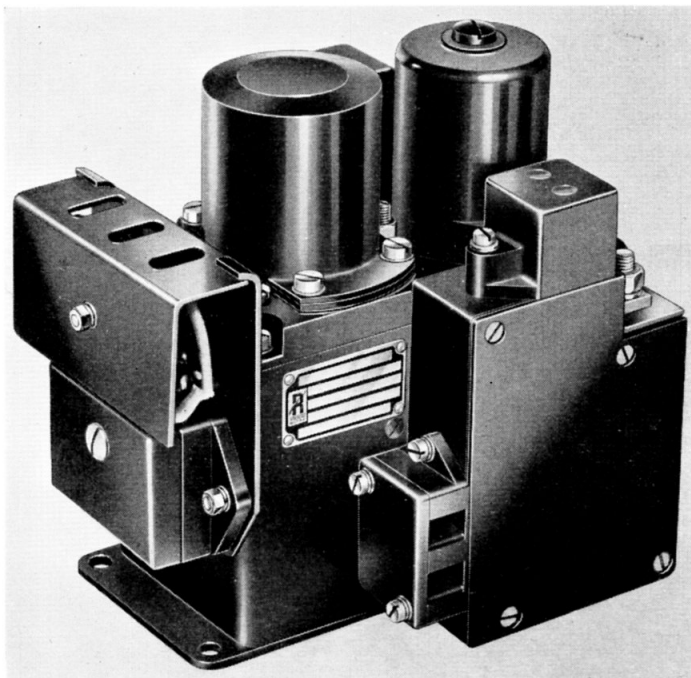
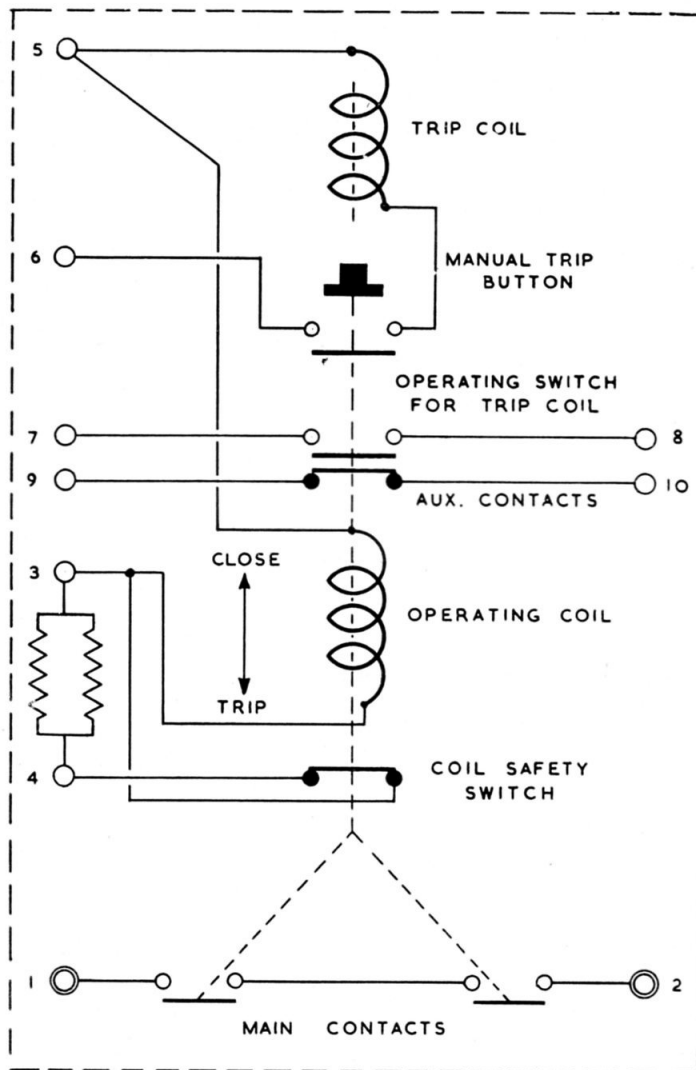

Fig. 1. General view of Type 14A, No. 2 switch
Fig. 2. Diagram of internal connections
2. This type 14A, No. 2 magnetic switch (*fig. 1*) is similar in construction to those described in A.P.4343, Vol. 1, Sect. 11, Chap. 16. The units provide two pairs of auxiliary contacts in addition to the main 112 volt contacts. It does not incorporate a bi-metal element, but is fitted with an economy resistance in the closing coil circuit. This resistance is provided by two resistors in parallel connected between terminals 3 and 4 (*fig. 2*).